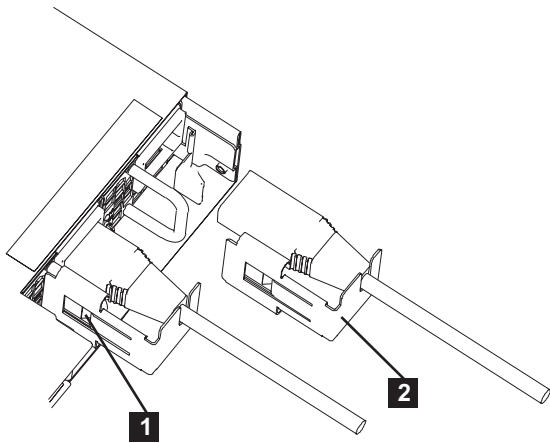

Figure 33. SAN Volume Controller 2145-CG8 cable-retention brackets
The cable-retention brackets install without tools, as shown in Figure 33.
2. Align the cable-retention bracket on the power cord so that the bracket is to the left side of the cord, as shown by **2** in Figure 33.
5. Push the cable and the bracket into place, as shown in Figure 33.